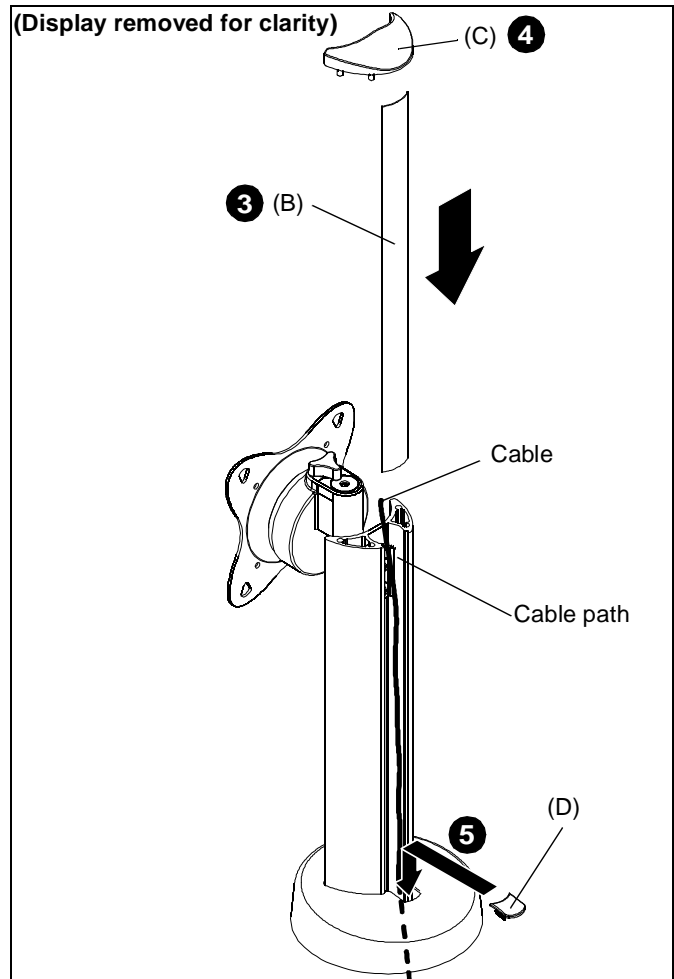

Figure 6
- Add wire cover (B) to back of STS1 by sliding it into the STS1 through the top. (See Figure 6)
- Add top cap (C) to top of STS1. (See Figure 6)
- Add base cable plug (D) to STS1 base. (See Figure 6)